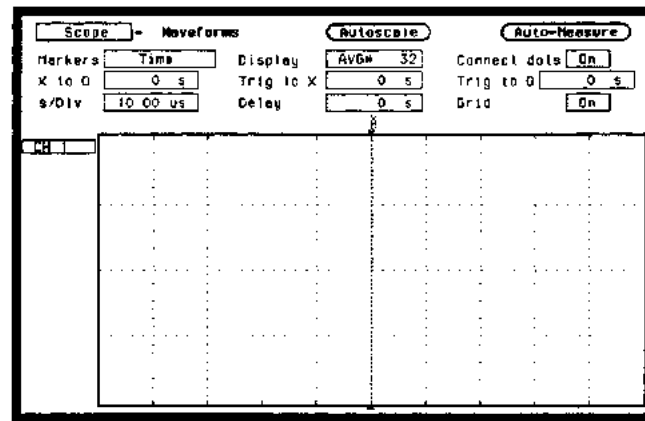

Figure 3-48. Waveforms Menu Configuration
8. Press **DISPLAY** and set **Markers** to **Time**, **Display** to **AVG# 32**, **Connect dots** to **On**, and **Grid** to **On** as in figure 3-48.